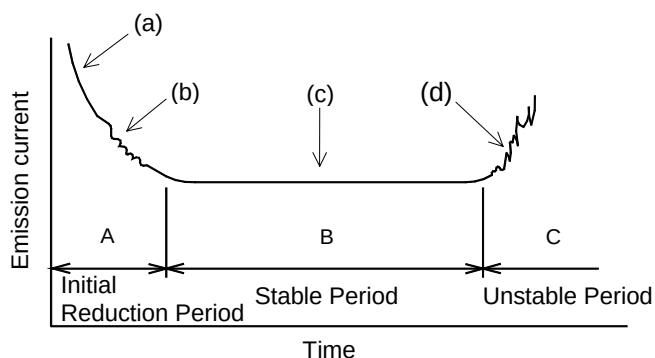
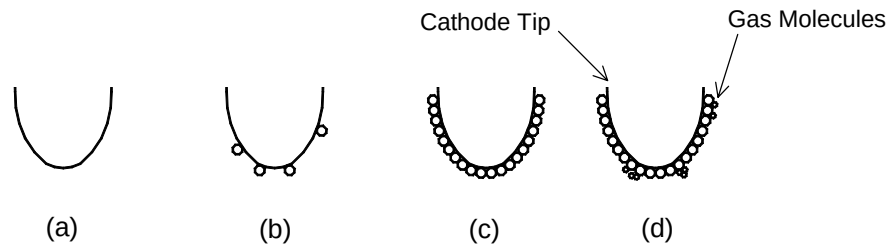

Fig. 2 Change of Emission Current with Time
Fig. 3 Status Transition of Adsorbed Gas Molecules on Cathode Tip
Figure 2 plots a usual change of emission current with time after flashing. The abscissa and ordinate represent time and emission current, respectively.
Figure 3 sketches a status transition of gas molecules adsorbed on the cathode tip.
The status (a) through (b) correspond to (a) through (d) on the curve in Fig. 2.
A, B and C in Fig. 2 are generally called an “Initial Reduction Period”, “Stable Period” and “Unstable Period”, respectively.
- A : In the initial reduction period, or just after flashing, gas is completely discharged from the cathode tip. (See (a) of Fig. 3.) As gas molecules are gradually adsorbed onto the cathode, emission current decreases. In this stage, gas molecules are desorbed, adsorbed and transferred. So noise (fluctuation of emission current) occurs. (See (b) of Fig. 3.)
- B : In the stable period approximately one layer of gas molecules is adsorbed onto the cathode. In this status a stable emission current is usually available. (See (c) of Fig. 3.) Although noise (fluctuation of emission current) may appear occasionally due to desorption and adsorption of gas molecules a stable status returns in a comparatively short time. So record an image after confirming the stable status. In this period emission current slightly decreases with time.
- C : In the unstable period a large quantity of gas molecules repeat desorption and adsorption. In consequence emission current fluctuates considerably while increasing. (See (d) of Fig. 3.)
The periods sectioned on the time axis in Fig. 2 vary depending on electron gun vacuum, residual gas component, cathode/anode cleanliness and emission current value.
When the initial reduction period is half an hour, the stable period lasts 2 to 4 hours, and 4 to 10 hours when the initial reduction period is 1 to 2 hours (approximate values). Even in the unstable period, flashing cleans the surface of the cathode as shown in Fig. 3 (a) and emission current changes again as illustrated in Fig. 2, whereby the stable period returns.
Usually flashing is set at Intensity ‘2’. However when the stable period is short or extracting voltage (Vext) rises at about 1 hour after pressing **HV ON** (because a large quantity of gas molecules are adsorbed on the cathode), set intensity ‘3’. There may be a case where noise (bright or dark lateral stripes on CRT) appears in the initial reduction period. But this does not constitute a problem since noise will disappear in the stable period. Even if noise appears in the stable period, it will be suppressed in a short time. In this case wait until the stable status returns before recording an image. In the stable period, emission current slightly decreases. If noise becomes conspicuous during image observation upon entering the unstable period, press the **HV OFF** switch, and set intensity ‘2’ for flashing again. Emission current repeats a change as traced in Fig. 2, so image observation is enabled in the stable period again.